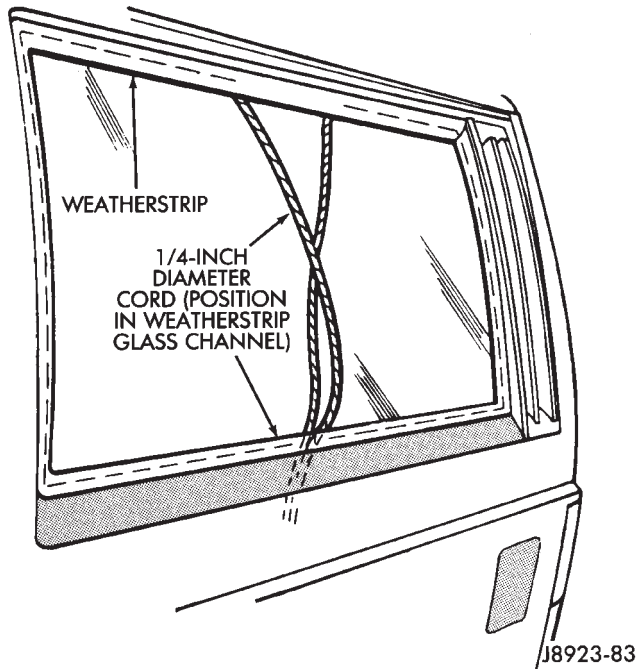

Fig. 11 Quarter Window Glass and Seal Installation
- (6) Position the quarter window glass and the weatherstrip seal in the window opening (Fig. 10) with the free ends of the cord inside the vehicle (Fig. 11).
- (7) Pull on each end of the cord to pull the weatherstrip seal channel lip over the window opening flanges.
- (8) Test the vent window for water leaks.